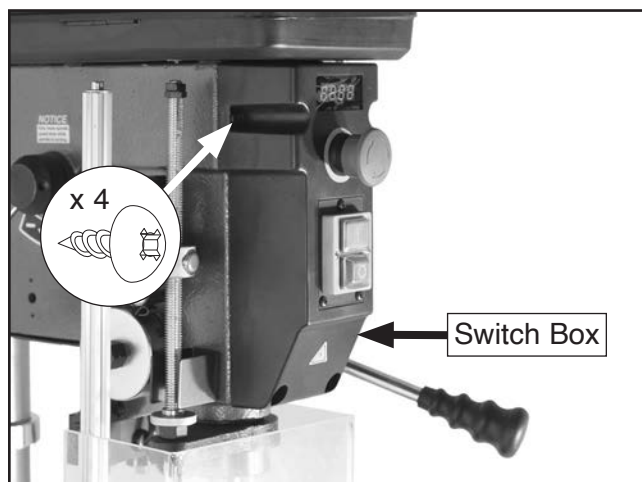

Figure 83. Location of switch box and securing screws.
8. Remove (4) tap screws shown in **Figure 83** to remove switch box from headstock.